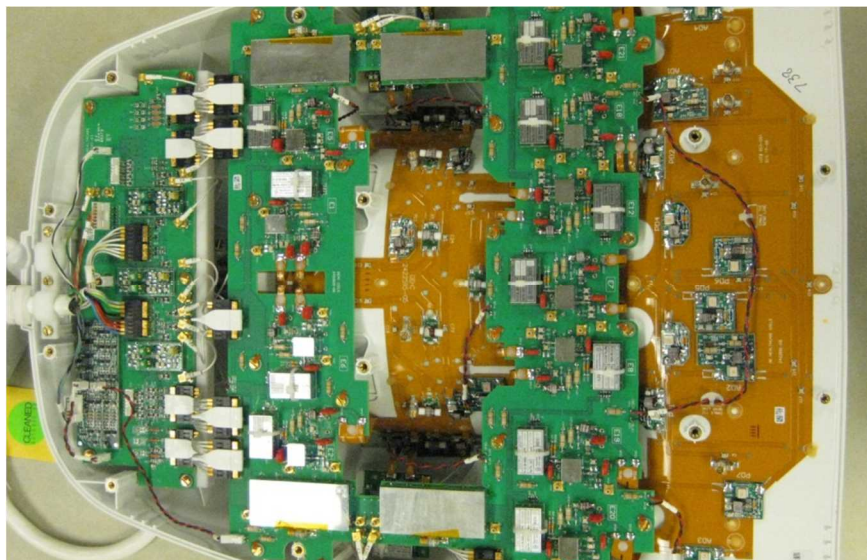

Figure 3.2
- 3.3. Remove the cover exposing the electronics of the coil as identified in Figure 3.2.